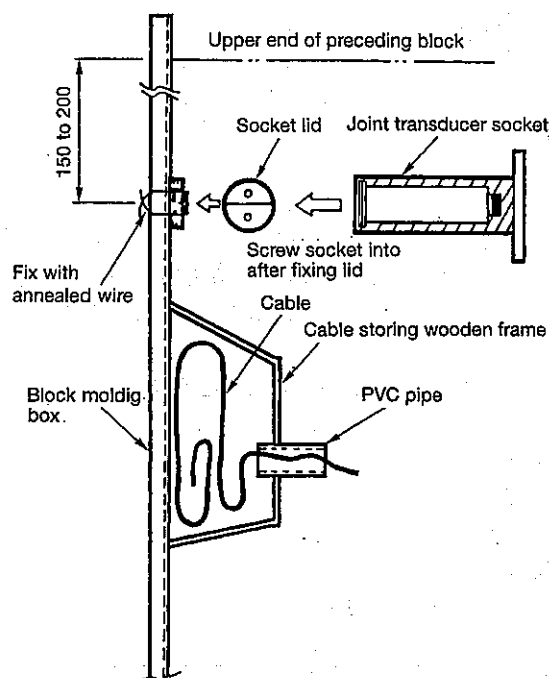

Fig.1 How to install the dedicated socket.
- (See Fig.1)
Before placing concrete on the other block, whose level is same as the embedded socket, remove the lid from the socket embedded previously, screw the joint transducer into the socket to fix. When placing concrete, take care not to damage the installation by a vibrator used. (See Fig. 1 and 2.)